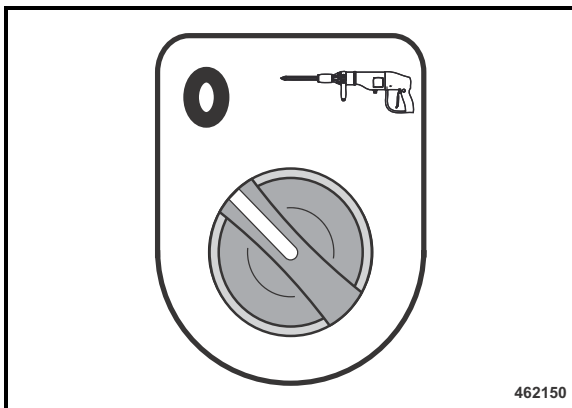

Fig. 92
- Before connecting hydraulic lines to the couplings make sure that the rotary switch for the hydraulic breaker (Fig. 92) is in position "0".